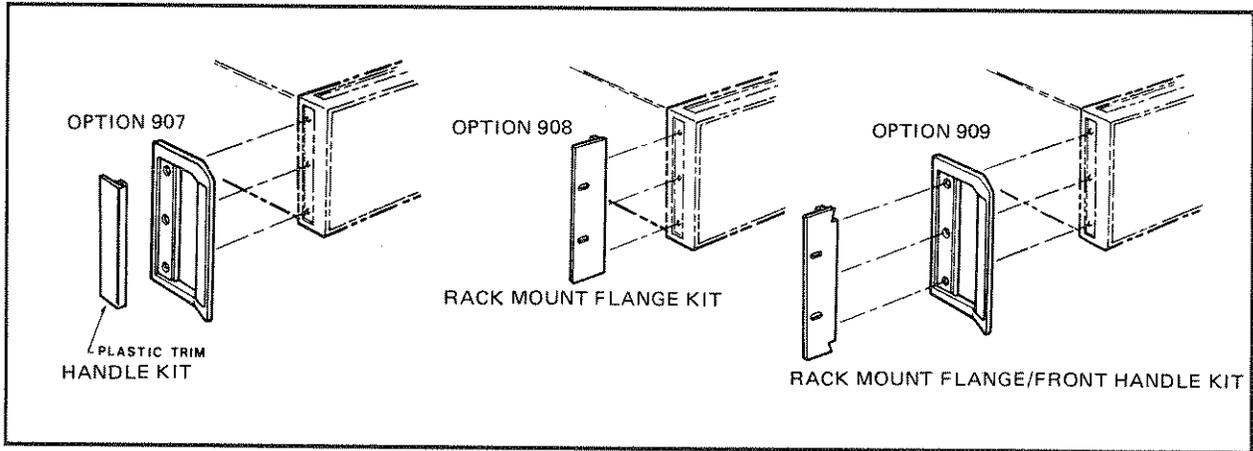

Figure 4-3. Rack Mount and Handle Kits
- If installed, remove the plastic trim (see figure 4-3) and front handles from the HP 3325B.